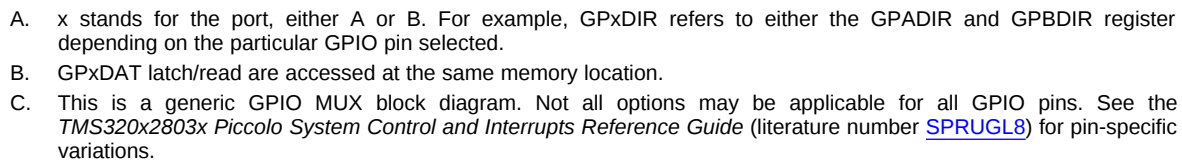

Figure 4-18. GPIO Multiplexing
- The sampling period is specified by the QUALPRD bits in the GPxCTRL register and is configurable in groups of 8 signals. It specifies a multiple of SYSCLKOUT cycles for sampling the input signal. The sampling window is either 3-samples or 6-samples wide and the output is only changed when ALL samples are the same (all 0s or all 1s) as shown in Figure 4-18 (for 6 sample mode).